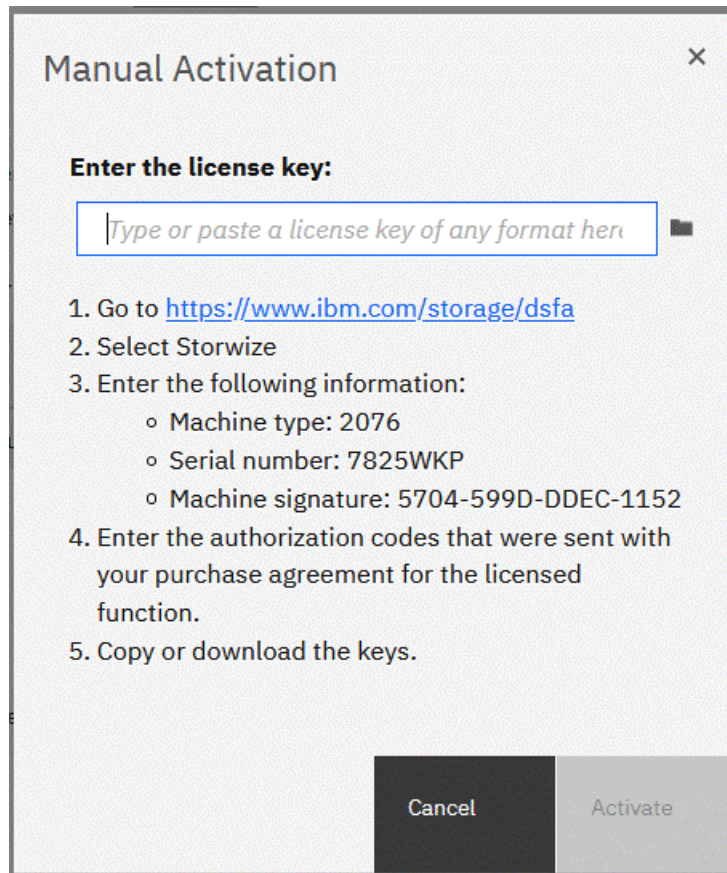

Figure 12-17 Manual encryption license activation window
1. Click **Activate License Manually** to open the Manual Activation window, as shown in Figure 12-17.